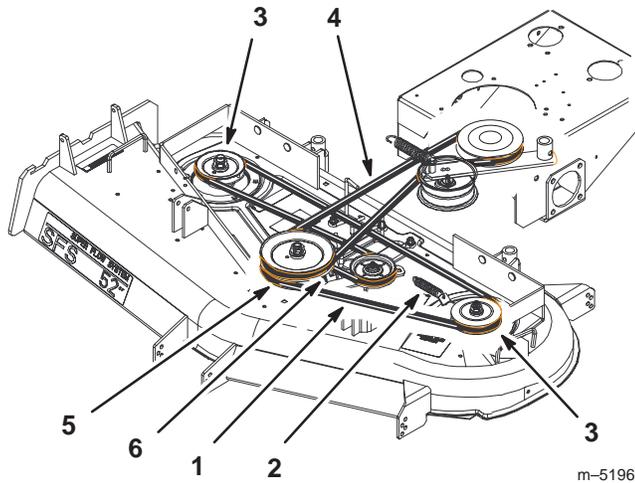

Figure 64
- Disconnect the idler arm spring to relieve tension on the idler arm and idler pulley, then remove the worn deck belt (Fig. 64).
- Install the new deck belt around the two outside spindle pulleys, the idler pulley, and in the lower groove of the center spindle pulley (Fig. 64).
- Connect the idler arm spring (Fig. 64).
11. Adjust deck belt guide an 1/8 in. (3 mm) from belt (Fig. 64).